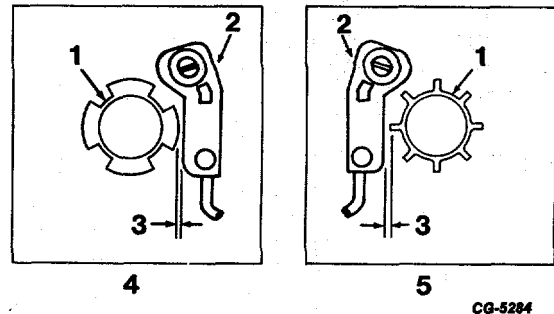

Figure 50 Trigger Wheel-to-Sensor Air Gap
4. Check trigger wheel-to-sensor air gap. Remove distributor cap rotor and shield. "Bump" starter to align one of the trigger wheel teeth with the sensor coil (trigger wheel tooth perpendicular to flat surface of sensor) as shown in Fig. 50. Check air gap between trigger wheel tooth and sensor (see SPECIFICATIONS). If air gap is to specifications, proceed to step 5.